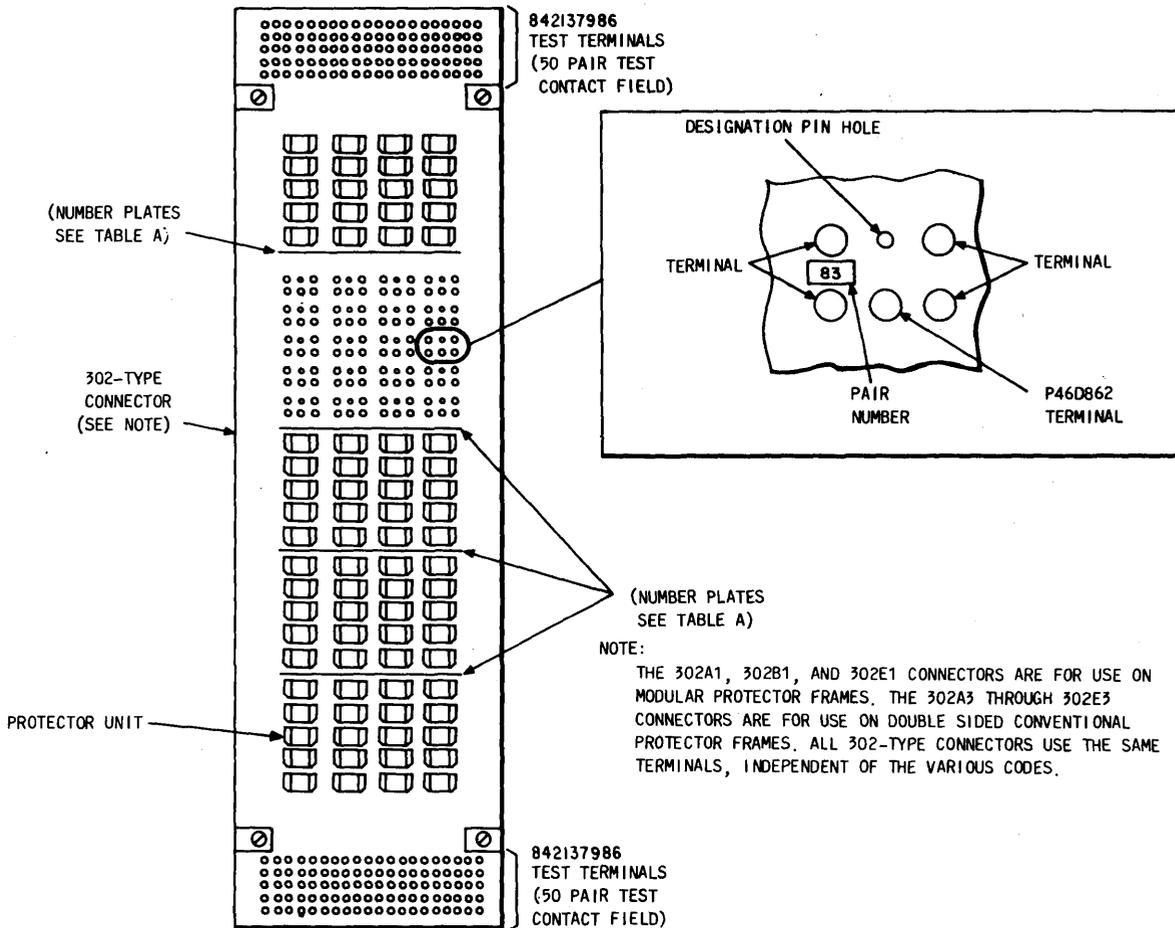

Fig. 1—302-Type Connector Panel
2.04 Figures 1 and 2 illustrate the 302- and 308-type connectors and the relationship of piece parts.